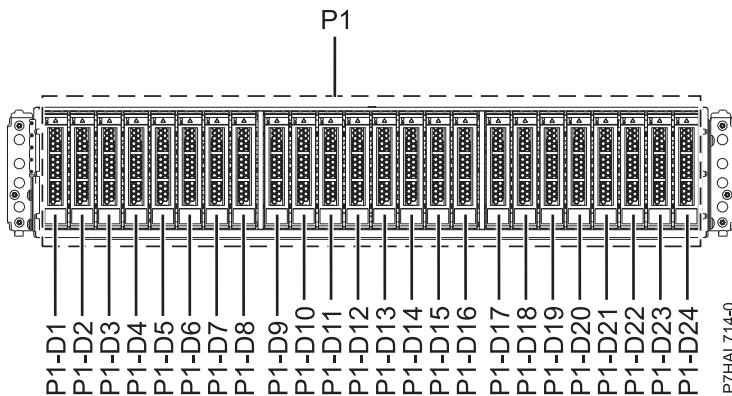
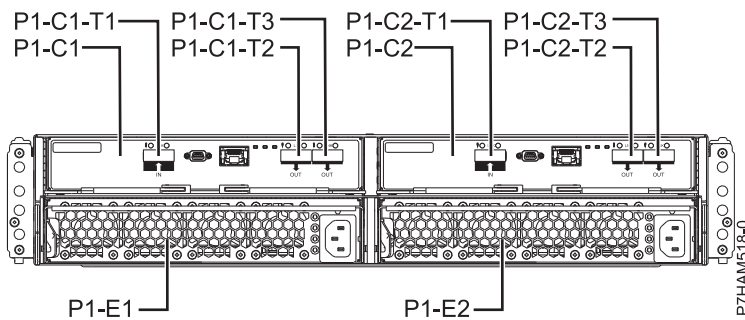

Figure 31. Front view of the 5887 disk drive enclosure showing the disk drive locations
Figure 32. Rear view of the 5887 disk drive enclosure
5. Identify the part and the enclosure that you want to service. The disk drive and SSD slots are located in the front of the enclosure. Figure 31 and Figure 32 show the front view and rear view of the enclosure and the disk drive locations in the enclosure.